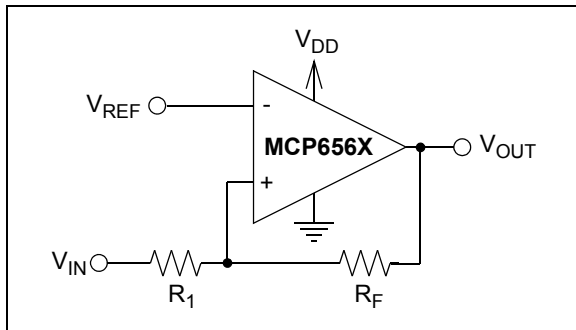
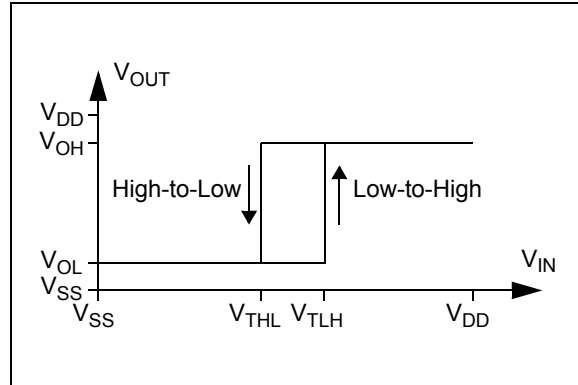

FIGURE 4-4: Non-Inverting Circuit with Hysteresis for Single-Supply.
FIGURE 4-5: Hysteresis Diagram for the Non-Inverting Circuit.
Figure 4-4 shows a non-inverting circuit for single-supply applications using just two resistors. The resulting hysteresis diagram is shown in Figure 4-5.
The trip points for Figure 4-4 and Figure 4-5 are:
2. Non-inverting Configuration (Figure 4-4):